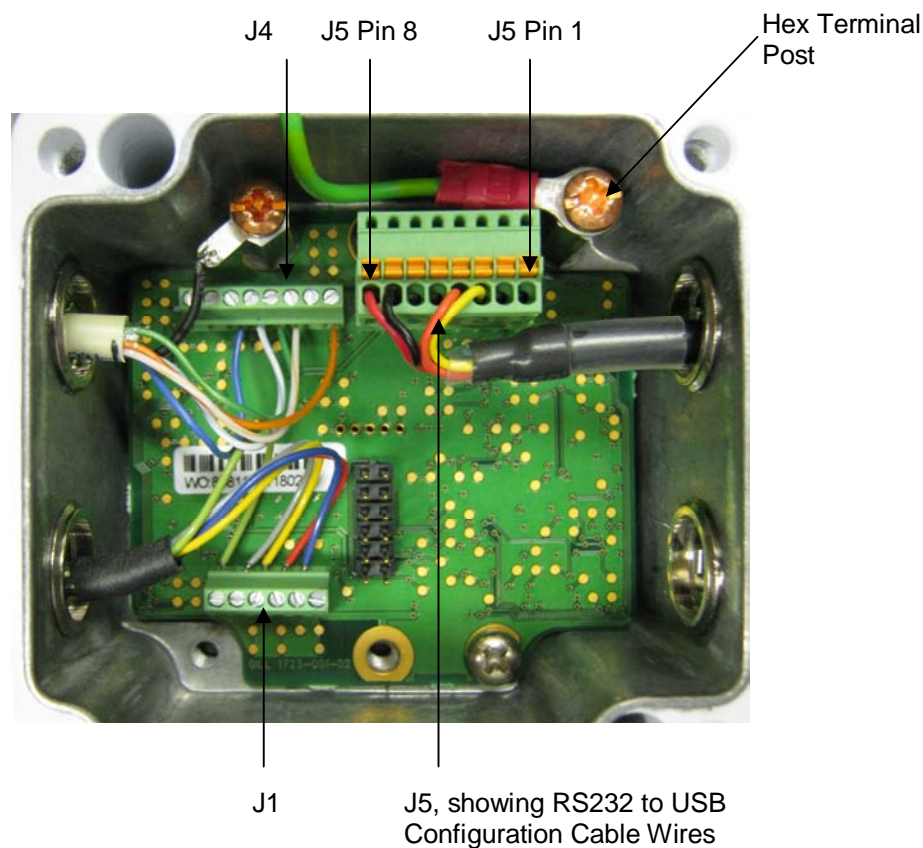

Figure 4 Internal view of the hub box
2. Locate connector J5 (see Figure 4). Carefully pull the connector off its circuit board pins.
6. Attach the cable's screen wires to the terminal post (see Figure 4).